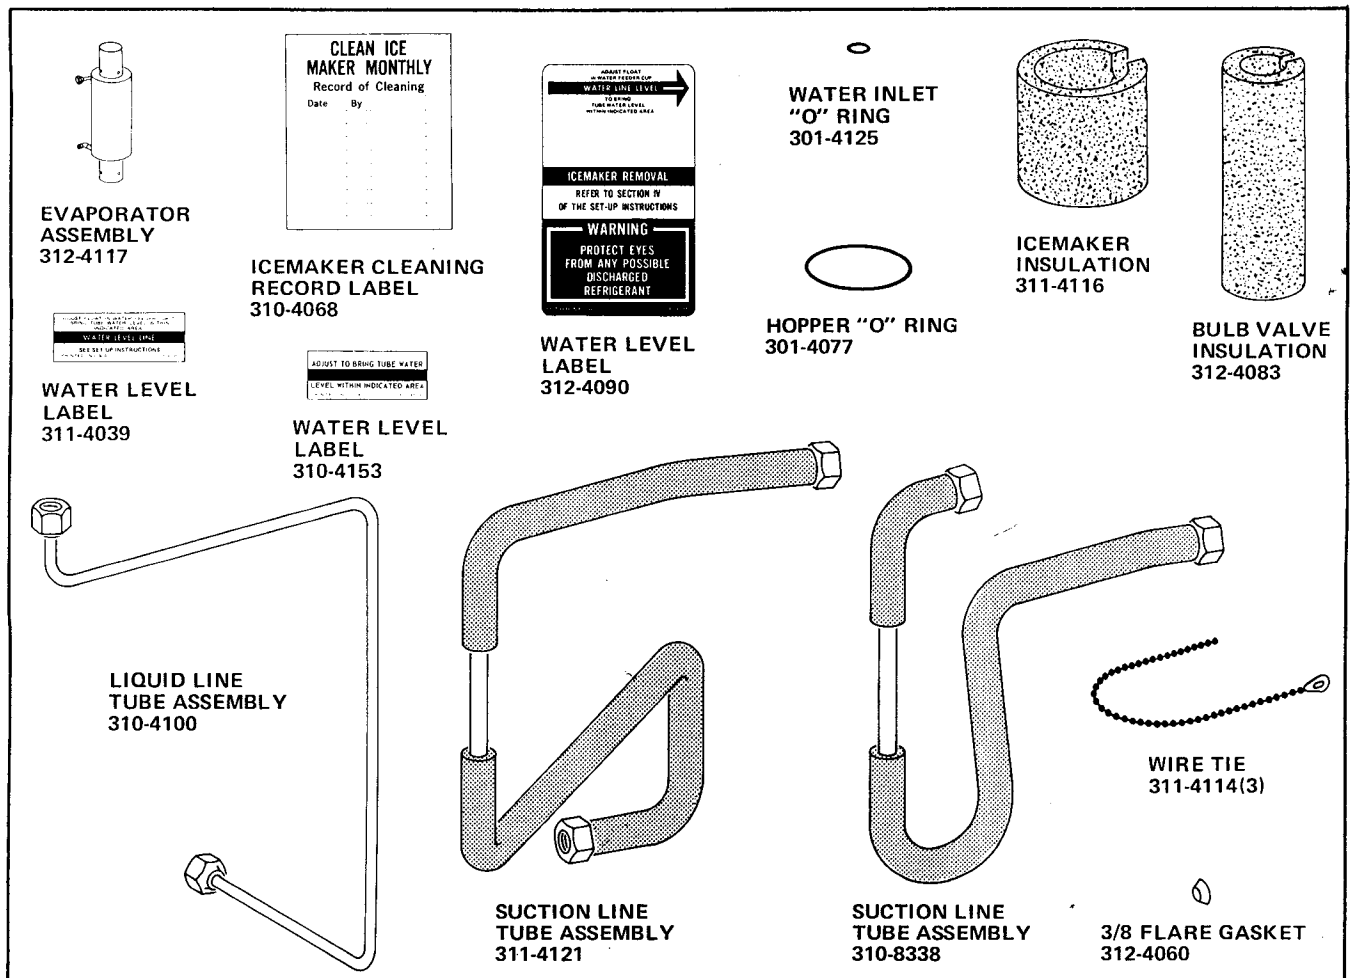

FIGURE 1
- Figure 1 illustrates and gives the part number of the parts included in the Kit, Check the contents of the Kit with Figure I-1 to be sure all the parts are included in the Kit before starting to replace the defective Evaporator Assembly.